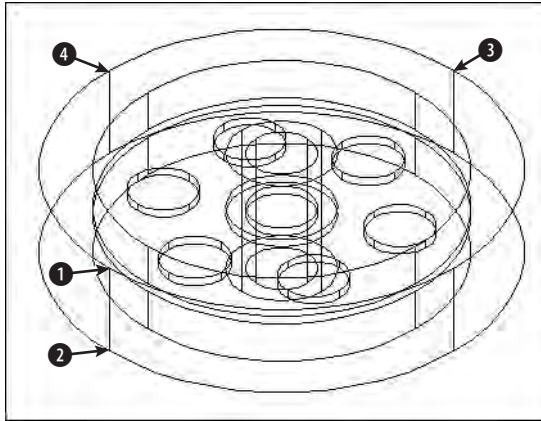

Figure 24-22: The 3D model for slicing
1. If you have ab24-03.dwg open from the previous exercise, use it. Do a regen to remove the hidden view. If you don't have it open, open it from your AutoCAD Bible folder or from the Results folder of the *AutoCAD 2004 Bible* CD-ROM. Make sure that OSNAP is on. Set running object snaps for endpoint, midpoint, center, and quadrant. Make sure you have both the Solids and the Solids Editing toolbars open. The drawing is shown in Figure 24-22.
<3points>: *Pick the quadrant at ① in Figure 24-22.*